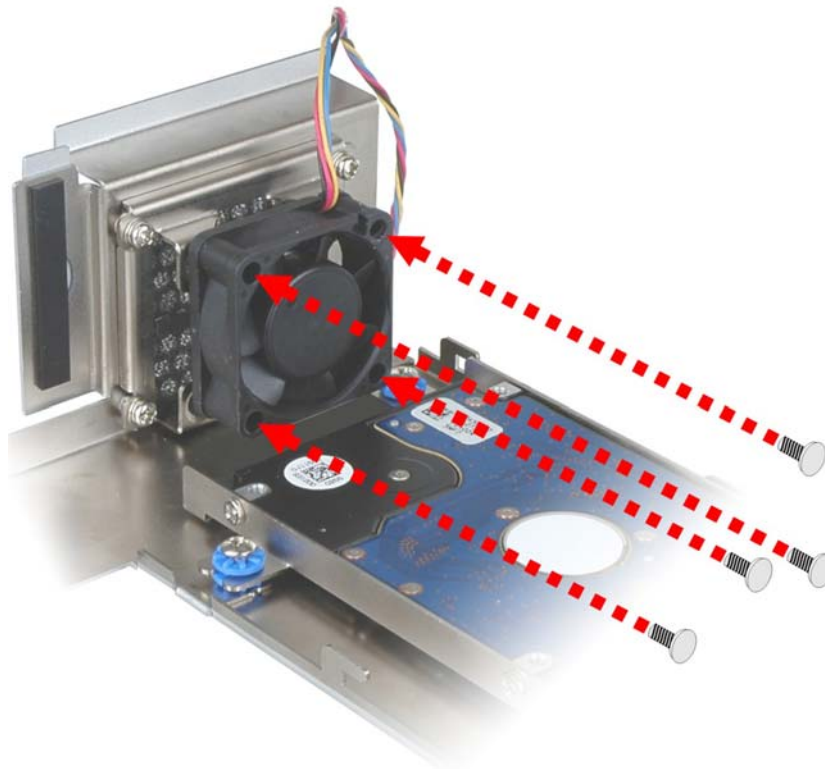

Figure 3-8: System Fan Installation
**Step 3:** Attach the system fan to the TANK-800 and secure it by four retention screws (**Figure 3-8**).